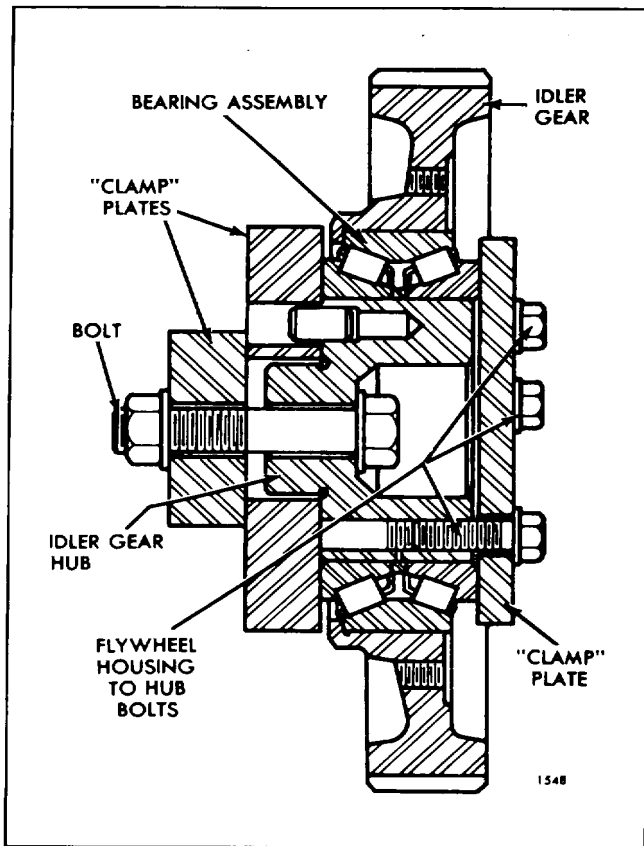
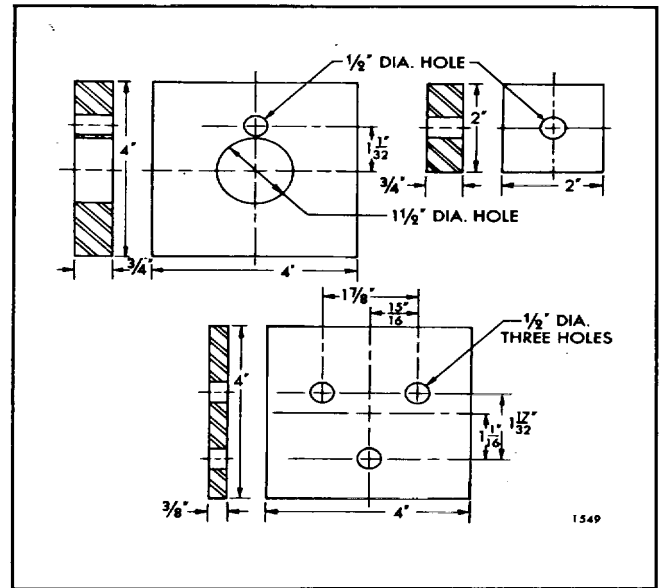

Fig. 5 - Fixture for Testing Bearing Pre-Load
Fig. 6 - Plates for Bearing Test Fixture
However, if the gears are on the engine, a suitable fixture, which may be held in a vise, may be made as shown in Fig. 5. Three plates, a 1/2"-13 x 2 3/4" bolt and a plain washer are used with a 1/2"-13 nut and plain washer for mounting. One of the plates is used to take the place of the flywheel housing, and the other two plates, the cylinder block. "Engine-mounted" conditions are simulated by tightening the nut to 80-90 lb-ft torque and tightening the three plate-to-hub attaching bolts to 25-40 lb-ft torque. The components of the fixture may be made from steel stock in accordance with the dimensions shown in Fig. 6.
3. Place steel plate (lower plate shown in Fig. 6) against hub and bearing. Insert three 3/8"-16 bolts through plate and thread into hub. Tighten the bolts to 25-40 lb-ft torque.
1. Attach the plates (two upper plates of Fig. 6) to the idler gear with 1/2"-13 center bolt, washers and nut as shown in Fig. 5. Tighten the bolt to 80-90 lb-ft torque.